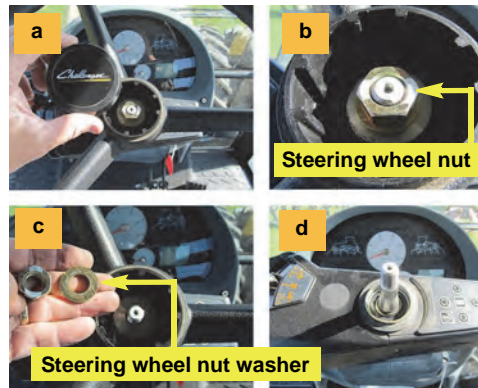

Figure 3 (a-d): Steering wheel removal
- Remove the center cap from the steering wheel to expose the steering wheel nut (Figures 3-a and 3-b).
Using the machine's original steering wheel nut and washer (see Figure 3-c), secure the steering wheel (Figure 4a, upper inset).